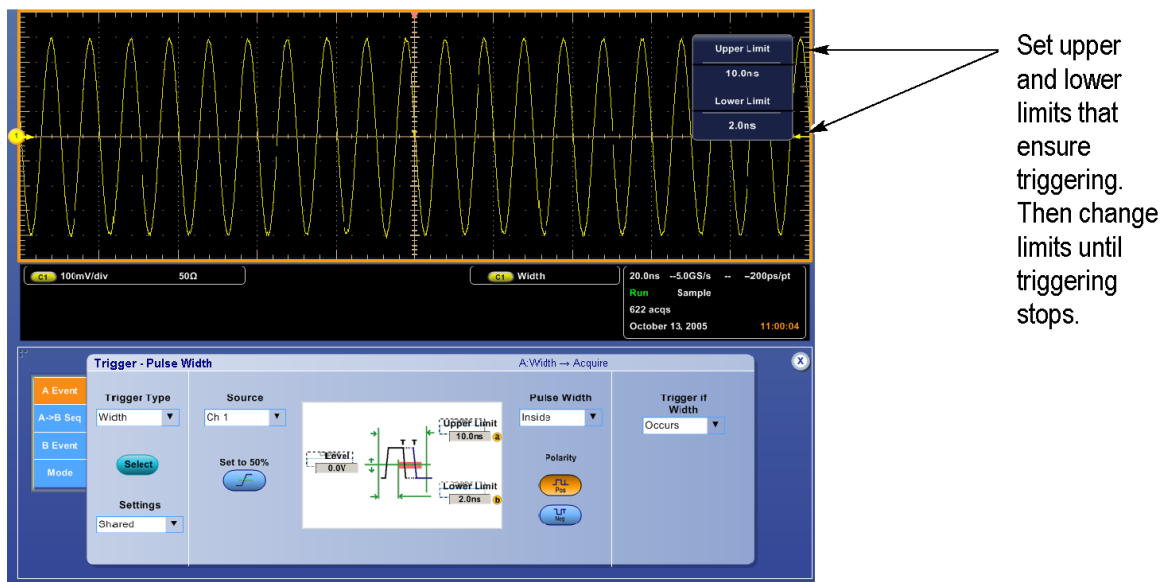

Figure 29: Measurement of time accuracy for pulse and glitch triggering
- a. Set upper and lower limits that ensure triggering at 100 MHz: (See Figure 29: Measurement of time accuracy for pulse and glitch triggering on page 138.)